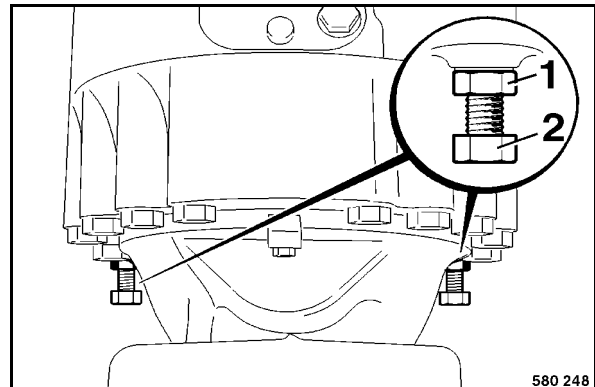

Fig. 110
- To release the brake turn counter nuts 1 (Fig. 110) approx. 8 mm back.
- Turn the brake releasing screws (2) completely in against the stop.